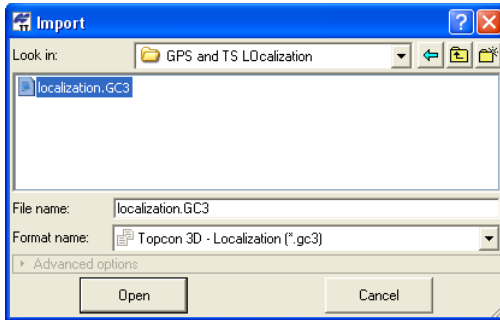

Figure 3-19. Import Localization File
2. On the **Import** dialog box, select *Localization Files* from the Format name drop-down entry box (Figure 3-19 on page 3-26).
4. Click **Open** to import the file (Figure 3-19).